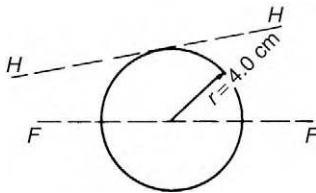

Figure 7.21
3. For the circle shown in Figure 7.21, find the second moment of area and radius of gyration about (a) axis FF and (b) axis HH